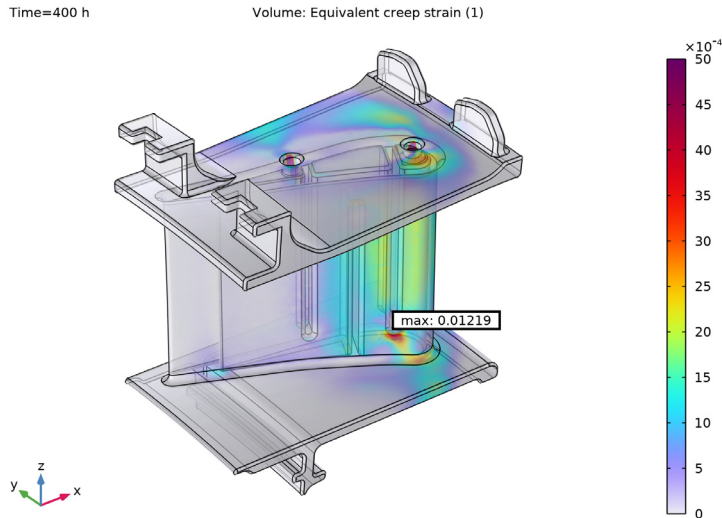
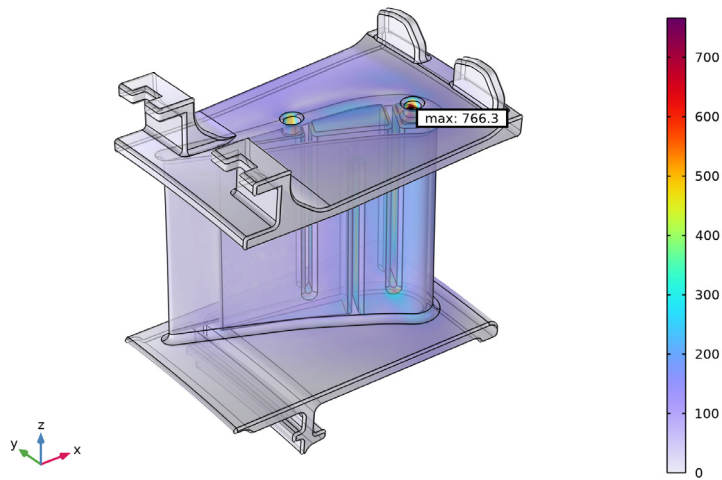

Figure 2: Distribution of the equivalent creep strain after 400 h of stable operation.
Figure 3: Distribution of von Mises stress at the start of operation.
The accumulated amount of creep strain after 400 h of isothermal operation is shown in Figure 2. It is observed that the maximum creep strain reaches a value of approximately 1%. Creep rupture of (DS) GTD111 has been reported to occur at around 10% creep strain, so the stator blade still has plenty of safety margin after 400 h of stable operation. There is no risk that cracks start to form, neither that the tertiary creep regime is entered.
An interesting observation, when comparing the distribution of the equivalent creep strain in Figure 2 to the stress state at the beginning of the time-dependent step shown in Figure 3; is that the maximum creep strain does not coincide with the peak stress. This is
The stress relaxation caused by creep is clearly visible when comparing Figure 3 to the stress distribution after 400 h of operation. The stress level decreases by several hundreds of MPa after this time lapse.